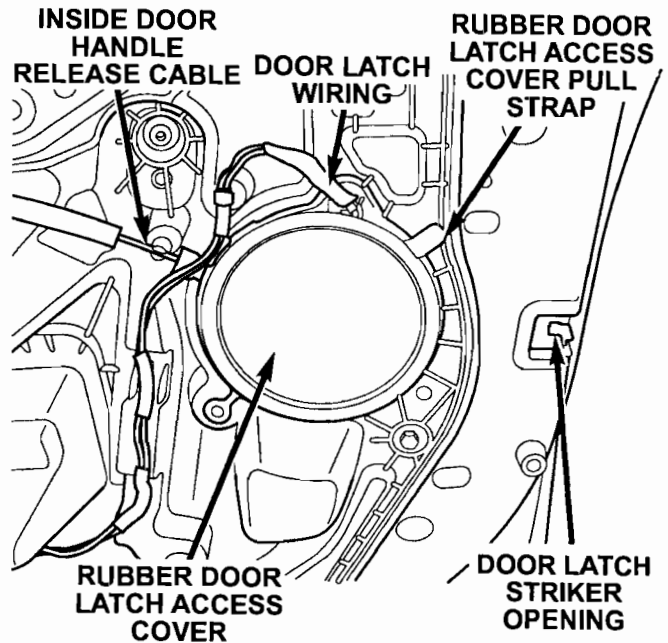

Figure 3
- Open the rubber door latch access cover from the door module carrier plate (Figure 3).